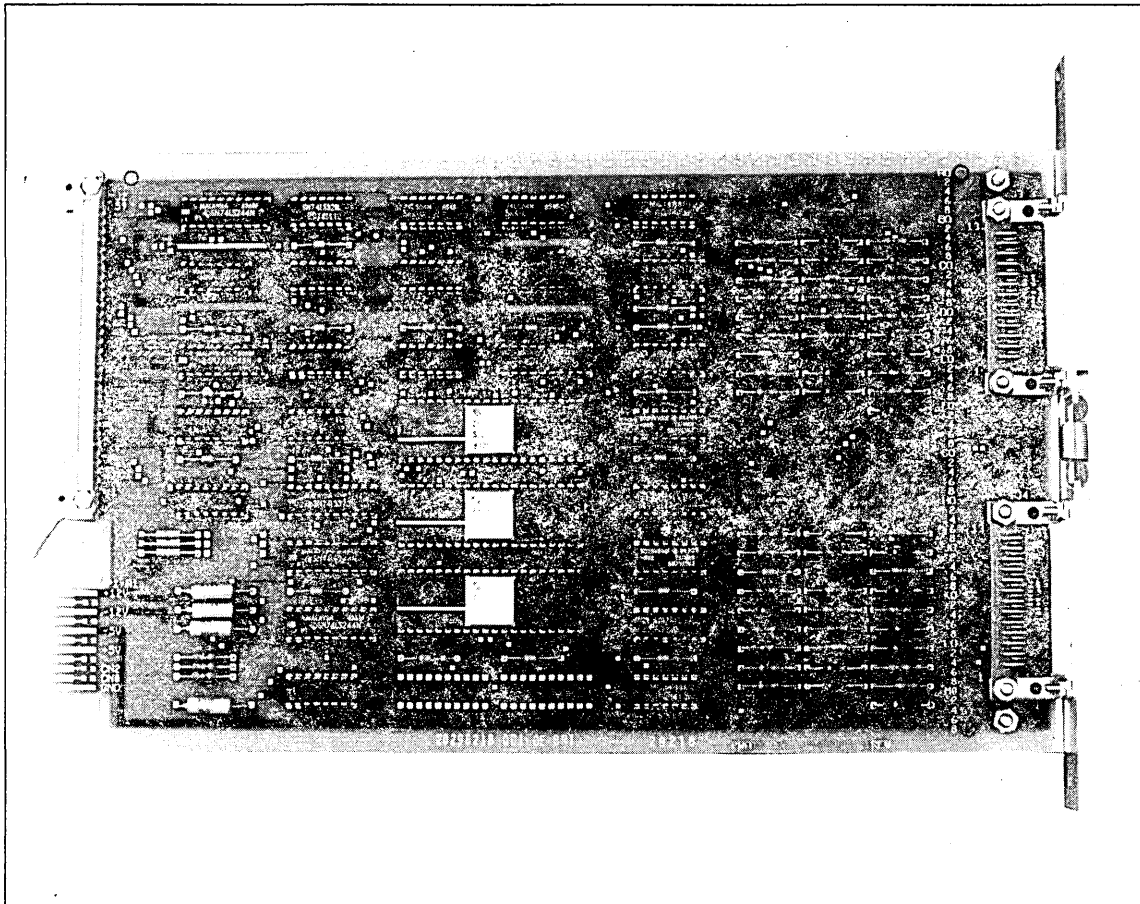

Figure 1-35. V.35 LIM Board
2. Unpack the V.35 LIM boards (shown in figure 1-35), the equipment labels, and the FCO labels.